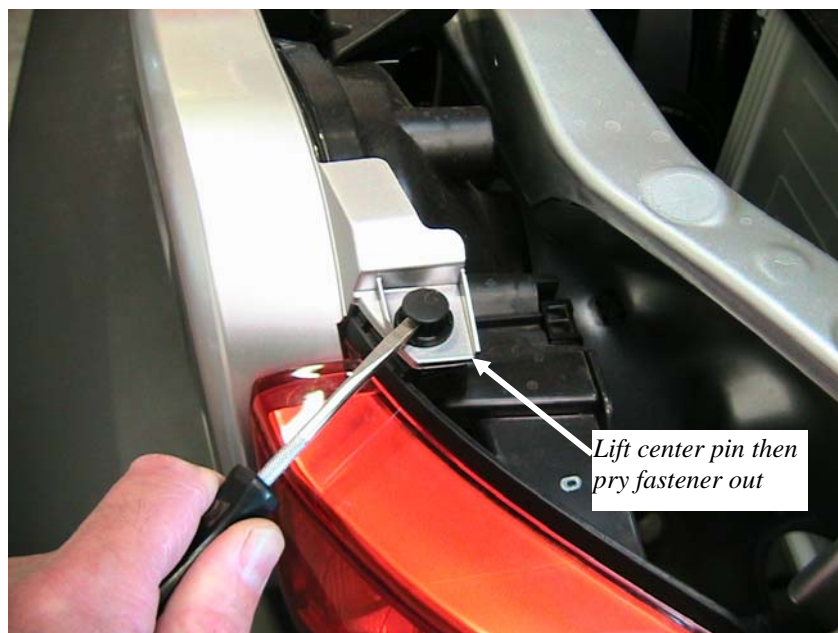

Figure 5 Left grille fastener removal
4. Remove the two plastic fasteners from the top of the grille. Retain the hardware for use later. Carefully pry the center pins up before removing the fasteners. **Figure 5**